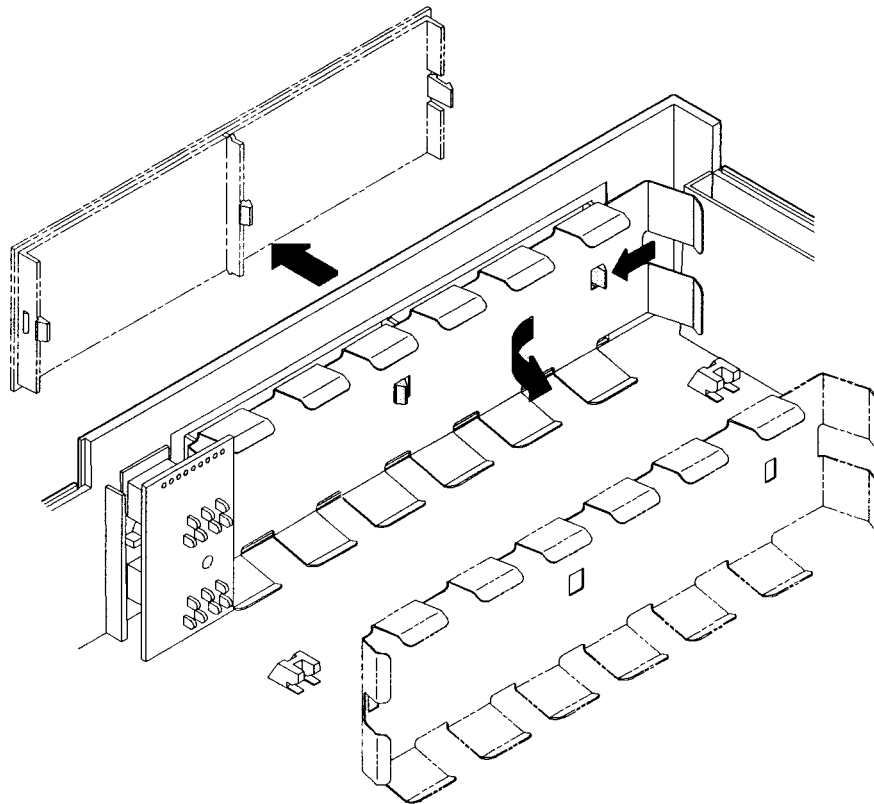

Figure B-18. Removing the Blank Cover Plate
5. Remove the blank bezel plate. Depress the snap tab on one end of the blank bezel plate to remove the metal liner. Then press on the blank bezel until it pops out of the system unit, as shown in Figure B-18. Discard the metal liner plate and the blank bezel plate.